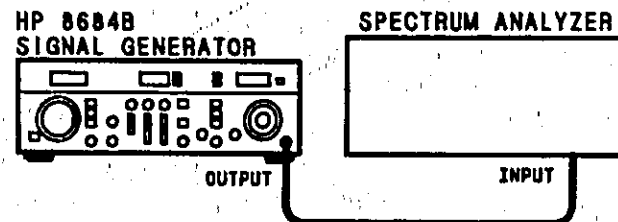

Figure 4-7. Internal AM Test Setup
9. Connect equipment as shown in Figure 4-7 and set Signal Generator to any frequency in its specified range. Set output LEVEL to +10 dBm with all modulation off.